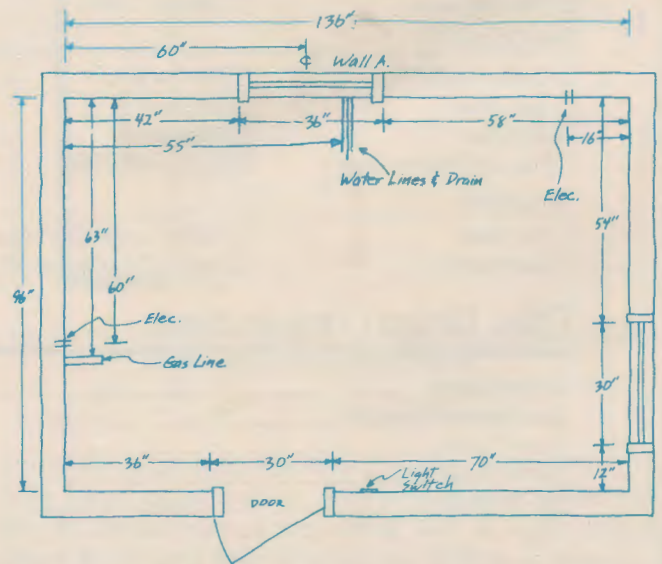

Fig. 49-21. Using graph paper, sketch the plan view of the measured kitchen. (Jae Company)
11. Draw accurate scaled sketches of the kitchen plan and elevations. Add all of the features you have measured. Use graph paper and make each square a 3 in. module, Fig. 49-21.